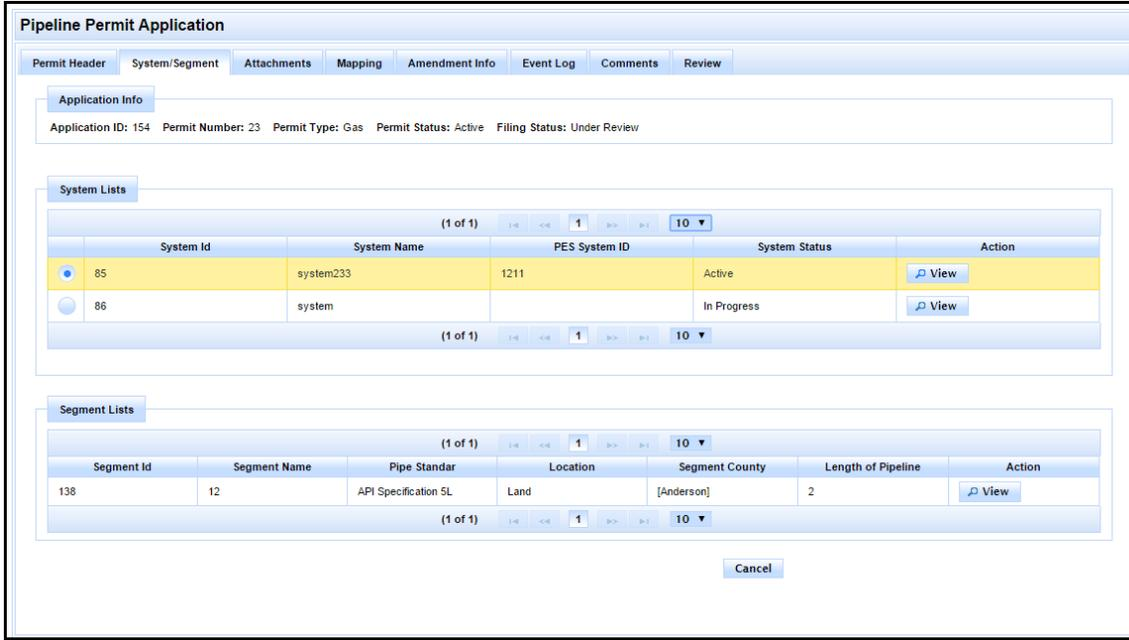

Figure 73: Permitting Reviewer System/Segment Tab
- Review the information on the Header tab. When you have finished, click the System/Segment tab. An example System/Segment tab is shown in Figure 73.